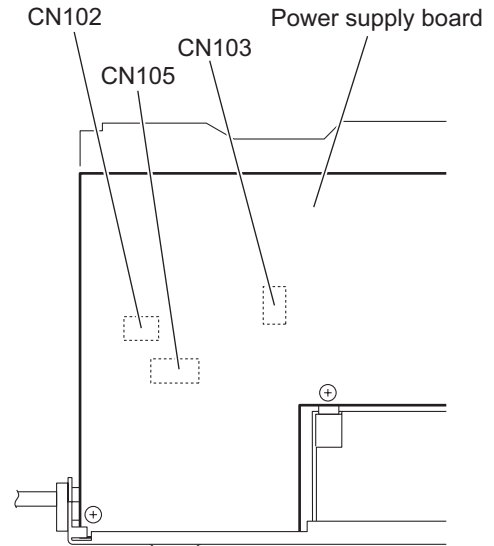

Fig.24
3.1.15 Removing the power transformer (See Figs.24 and 25)
(1) From the forward side of the power supply board, disconnect the wires from the connectors (CN102, CN103, CN105). (See Fig.24.)